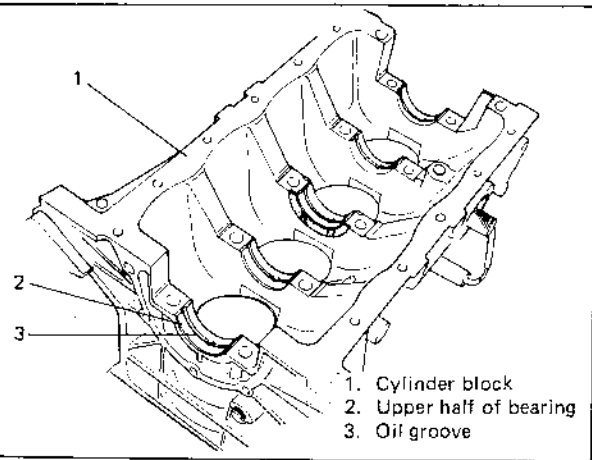

Fig. 6A-142 Installing Upper Half of Bearing
- On each main bearing cap, arrow mark and number are embossed as shown in Fig. 6A-143. When installing each bearing cap to cylinder block, point arrow mark toward crankshaft pulley side and install each cap from that side to flywheel side in ascending order of numbers "1", "2", "3", "4" and "5". Tighten cap bolts to specified torque after applying engine oil to bolt thread.